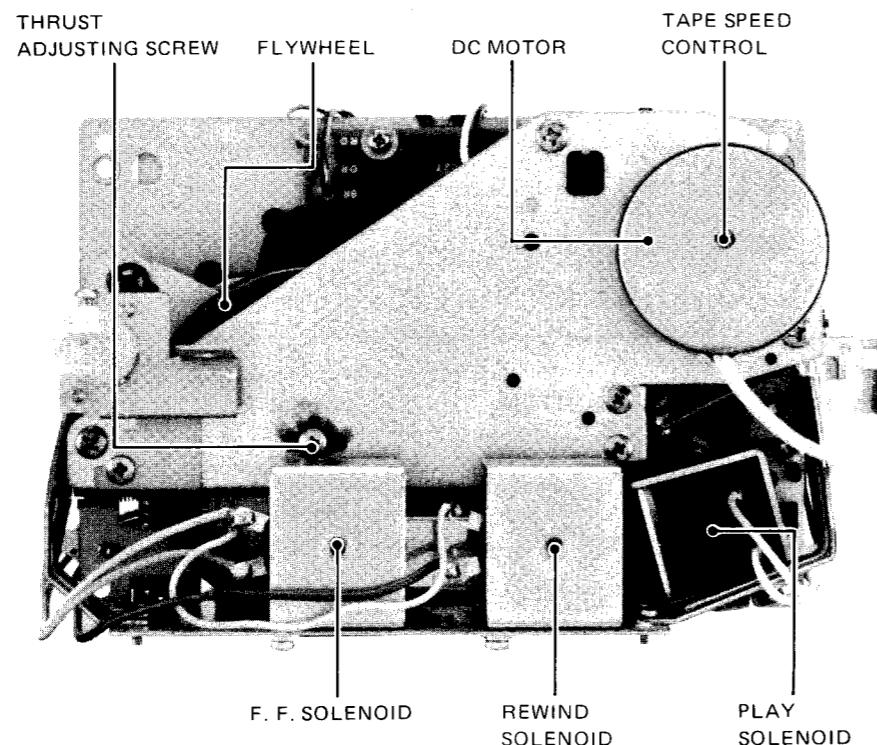

Fig. 3-4 Transport rear view
- Turn the thrust adjusting screw so that thrust of the capstan shaft is from 0.1 mm to 0.3 mm. For the thrust adjusting screw location, see Fig. 3-4.
- While the tape is playing, use a common slotted screwdriver with the handle completely insulated from the blade, and adjust the control built into the motor (see Fig. 3-4.) for a reading of 2,985 to 3,015 Hz on the frequency counter.
スラスト調整ねじ(Fig3-4参照)でスラストのカタを0.1~0.3mmの範囲内に調整。